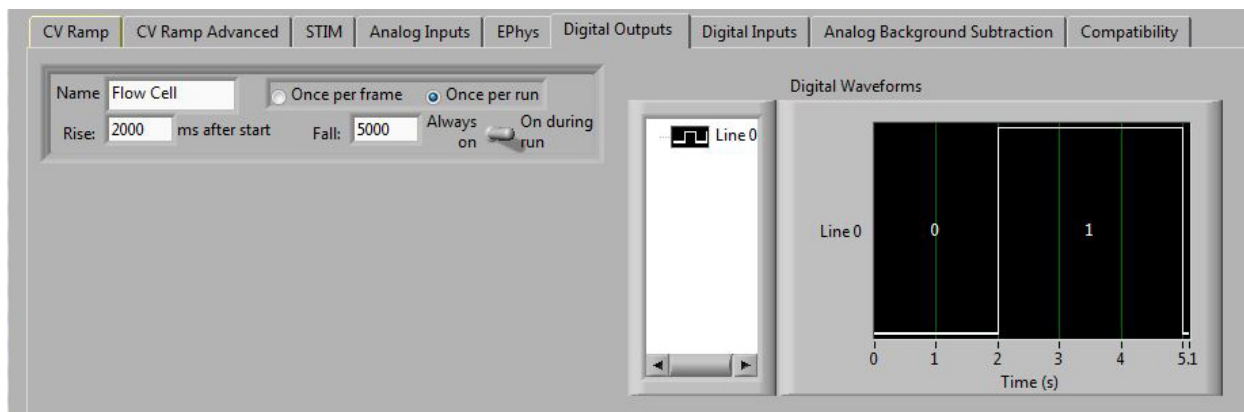

Figure 5-6: Analog Inputs Tab on the Experiment Setup in HDCV
15. Enter a Name for the trigger (e.g., *Flow Cell*), select the *Once per run* radio button, enter a rise time (initiation time of the trigger pulse), a fall time (end time of trigger pulse), and select *On during run* with the toggle switch (see: Figure 5-6). Note that the times for the rise and fall should be in units of milliseconds, so for the trigger to start 2 seconds after the start of a run with a duration of 3 seconds, enter a Rise time of $2,000\text{ (ms)}$ after start and a Fall time of $5,000\text{ ms}$. Notice that as parameters are entered, the panel to the lower right will display the pulse as entered, in this case a digital pulse from 2 seconds to 5 seconds during the experimental run (see: Figure 5-6).